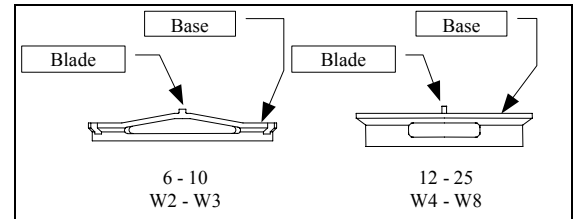

Fig. 16 - Shapes of gauge rings
- The P Series Super 300 Type Pillar Fitting is provided with a gauge ring to facilitate controlling the tightening range and limit, thereby ensuring safe and proper tightening (see Fig. 16).